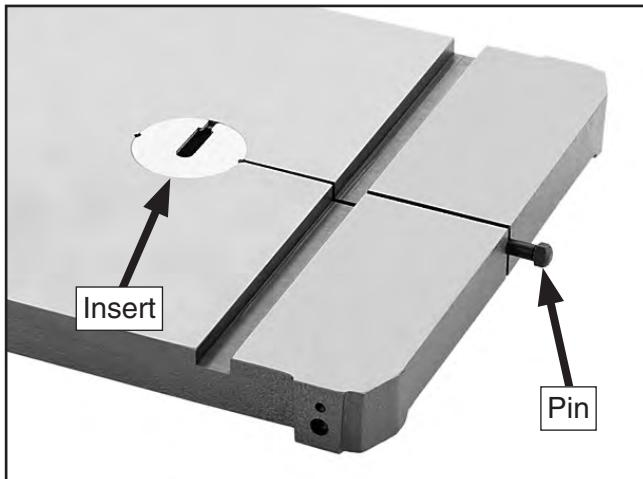

Figure 16. Table insert and pin.
- 11.** Remove the aluminum table insert from the center of the table and remove the table pin from the end of the table slot (see **Figure 16**).